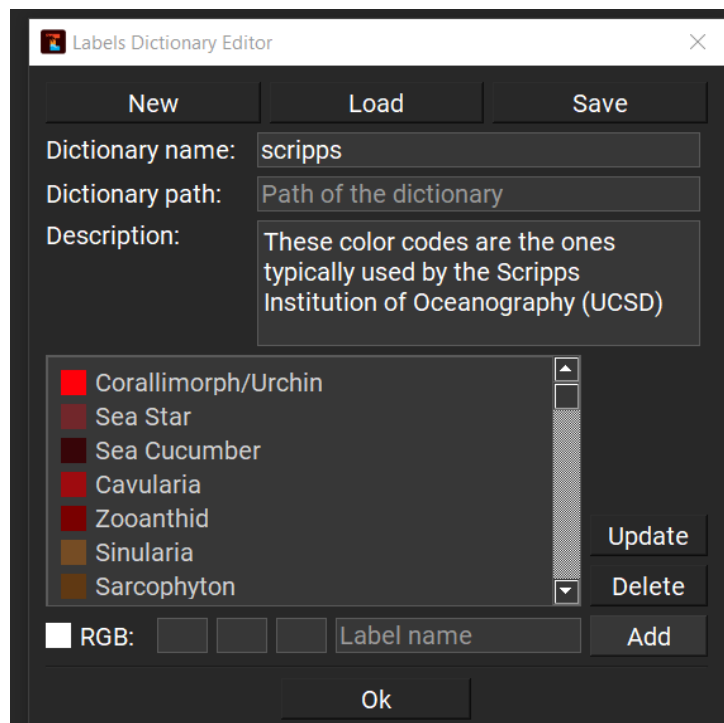

Figure 140. Scripps is the default dictionary, which needs to be changed to project-specific labels.
2. A new window will appear (Figure 140).